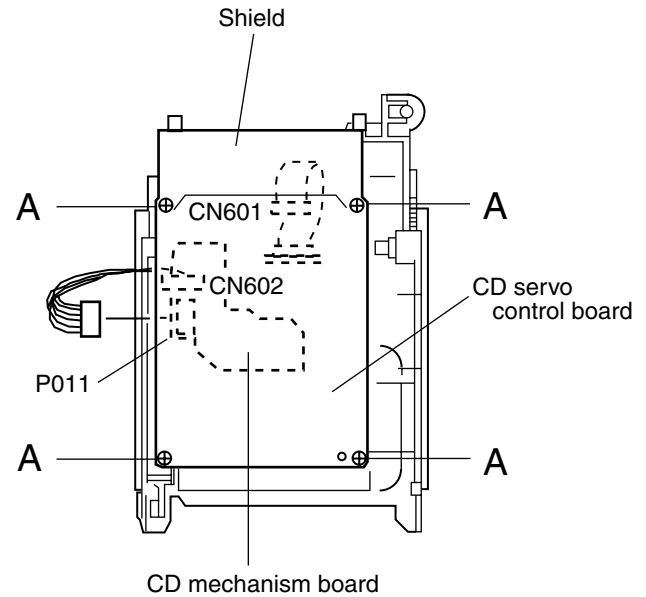

Fig. 1
### ■ Removing the playback / recording & eraser head (See Fig. 1 to 3)
1. While shifting the trigger arms seen on the right side of the head mount in the arrow direction, turn the flywheel R in counterclockwise direction until the head mount has gone out with a click (See Fig. 1).
### ■ Removing the CD mechanism and CD servo control P.C. board (See Fig. 1 and 2)
- (2) Life of the laser diode (Fig.1)
(Fig.1)